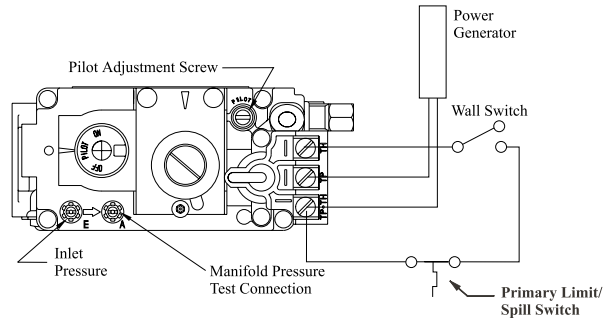

Figure 24a. Sit 820 gas valve used on the EP28-2LB, EP28-4LB, and the EP28-F2 models.
- Have the fireplace installation inspected yearly, including a visual check of the vent system, the burner and the pilot flame. For your convenience a 1/8" manifold pressure tap is supplied on the gas valve for a test gauge connection. See Figure 24a, 24b, and 24c.
2. Locate Pilot Adjustment Screw. (See figures 24a, 24b, and 24c.)
Pilot won't ignite	Disconnect remote wires and try to light pilot. If pilot now works, remote connections are faulty. Check wiring diagram figure 24a/b/c .
Main burner will not light	1. Check wiring (see figure 24a/b/c) 2. Check wall switch for proper connection.